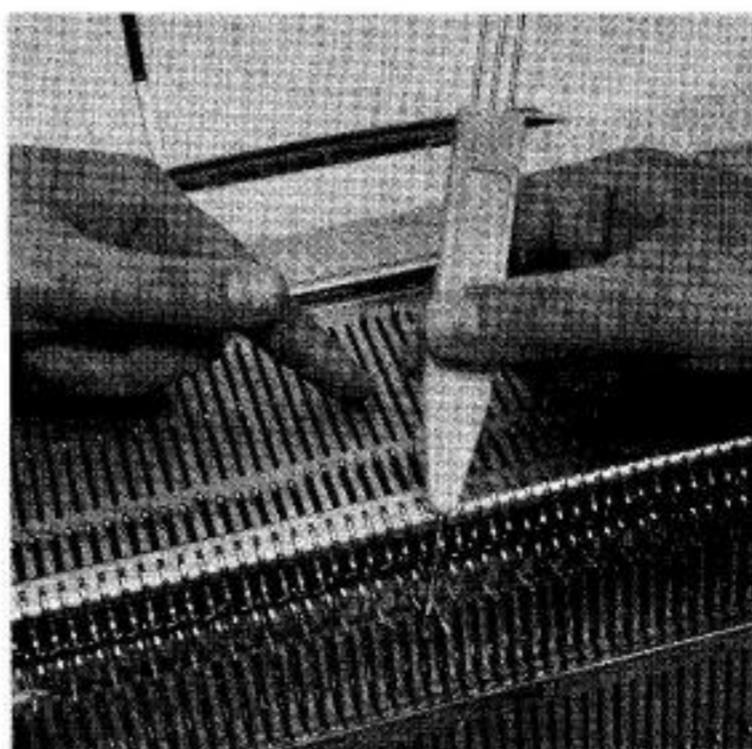

Fig. 84
5. Lift the eye of the transfer tool off the ribber needle and, tilting the handle of the tool towards the machine bed, slide the stitch off the transfer tool into the hook of the empty needle which you have just drawn out with your left hand. (Fig. 84)